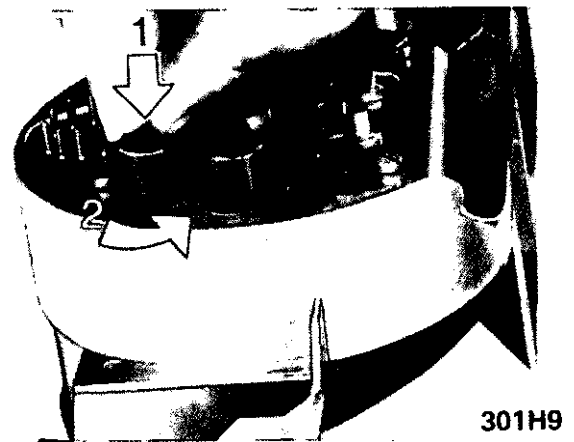

Figure 1H-9 Removing Instrument Cluster Bulbs
2. Replace bulbs from back of cluster. See Figure 1H-9.